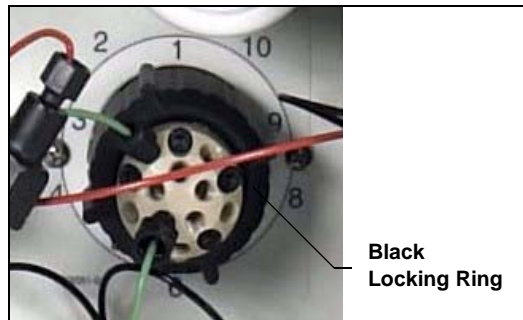

Figure 5-11. Unscrew the Valve Locking Ring
4. Unscrew the black locking ring on the front of the valve (see Figure 5-11) and remove the ring.